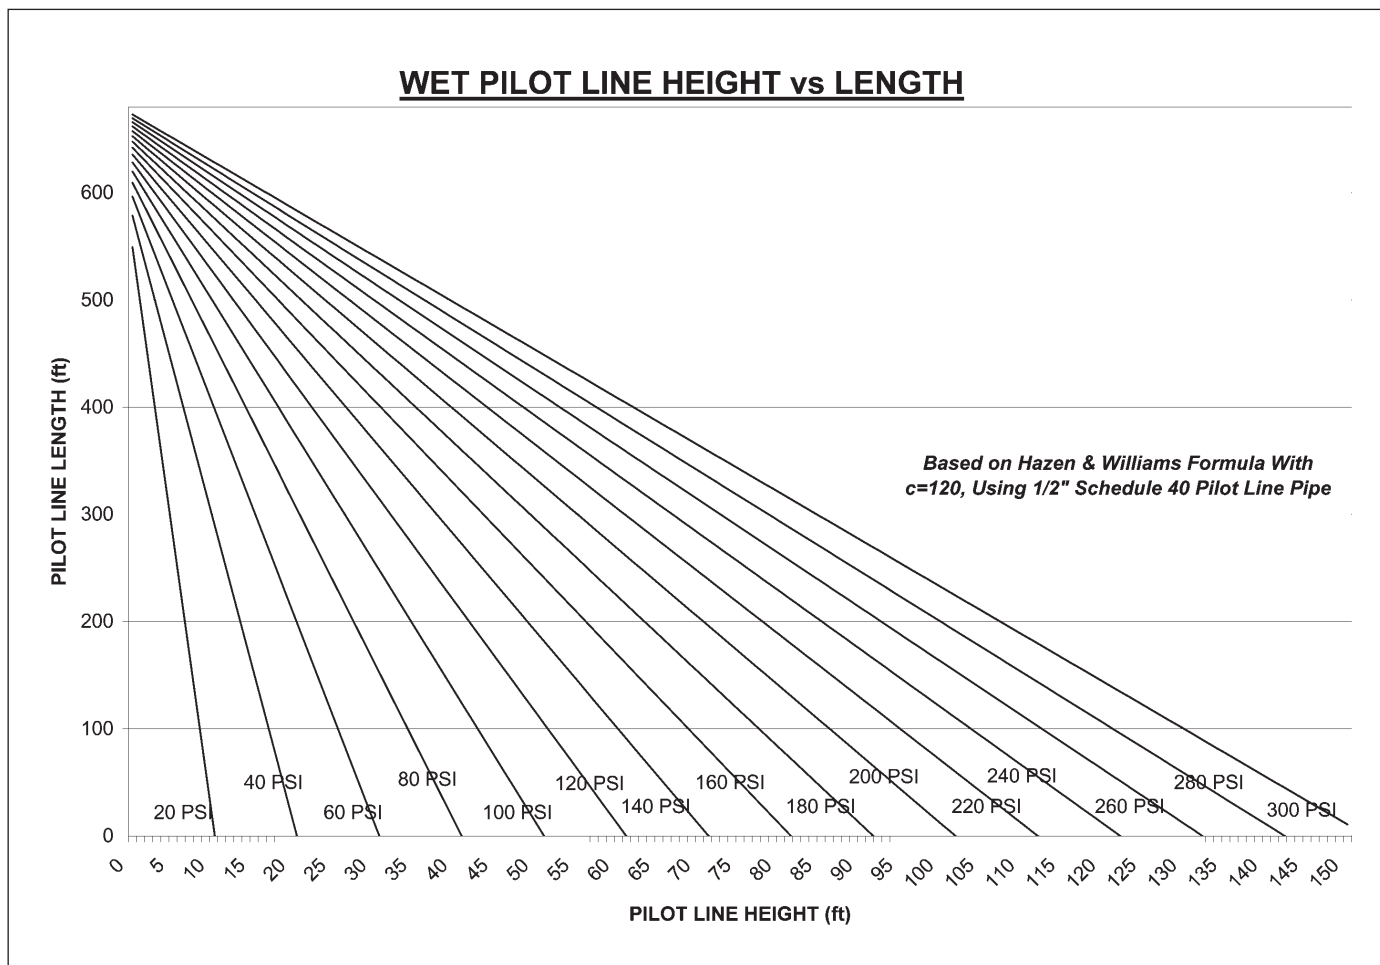

Fig. 2
- d) Maximum wet pilot line length and height must comply with data provided in Fig. 2.